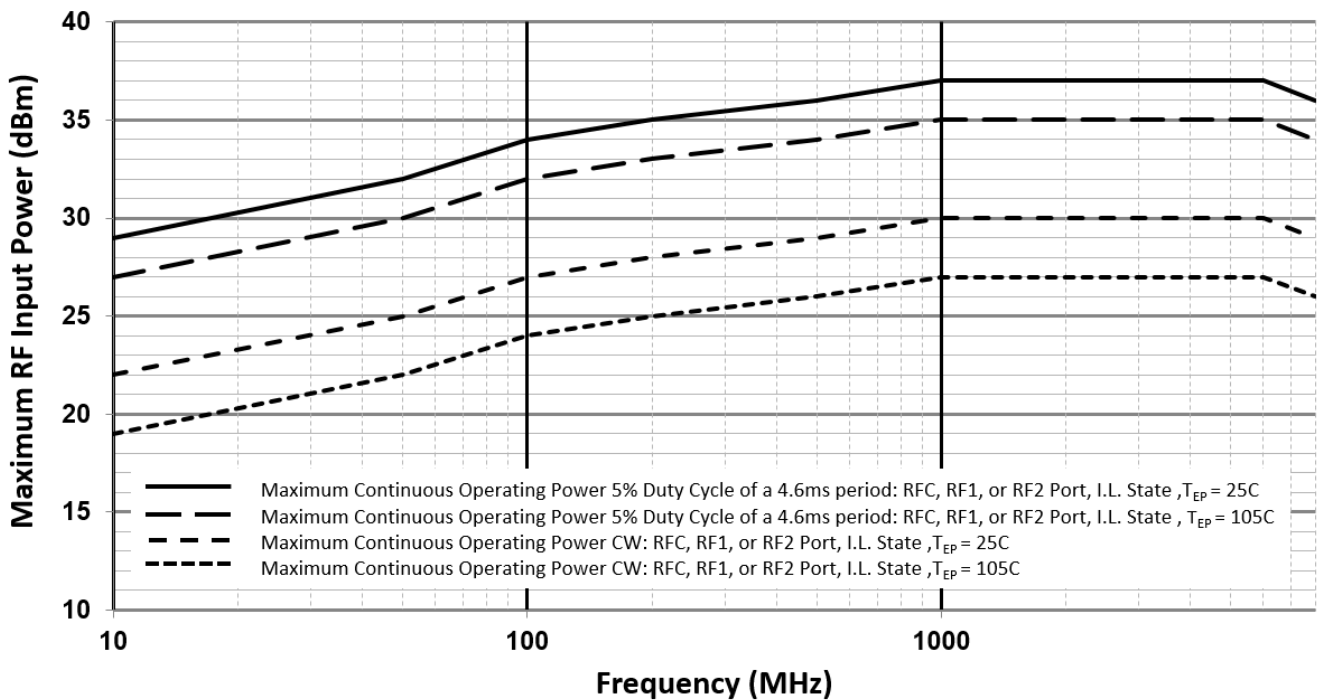

Figure 3. Maximum RF Input Operating Power vs. RF Frequency ($Z_s = Z_L = 50\Omega$)
- Levels based on: $V_{CC} = 2.7V$ to $5.5V$, $100MHz \leq f_{RF} \leq 8GHz$, $Z_s = Z_L = 50\Omega$. See Figure 3 for power handling derating vs. RF frequency.
- The input 1dB compression point is a linearity figure of merit. Refer to the Absolute Maximum Ratings section and Figure 3 for the maximum RF input power.